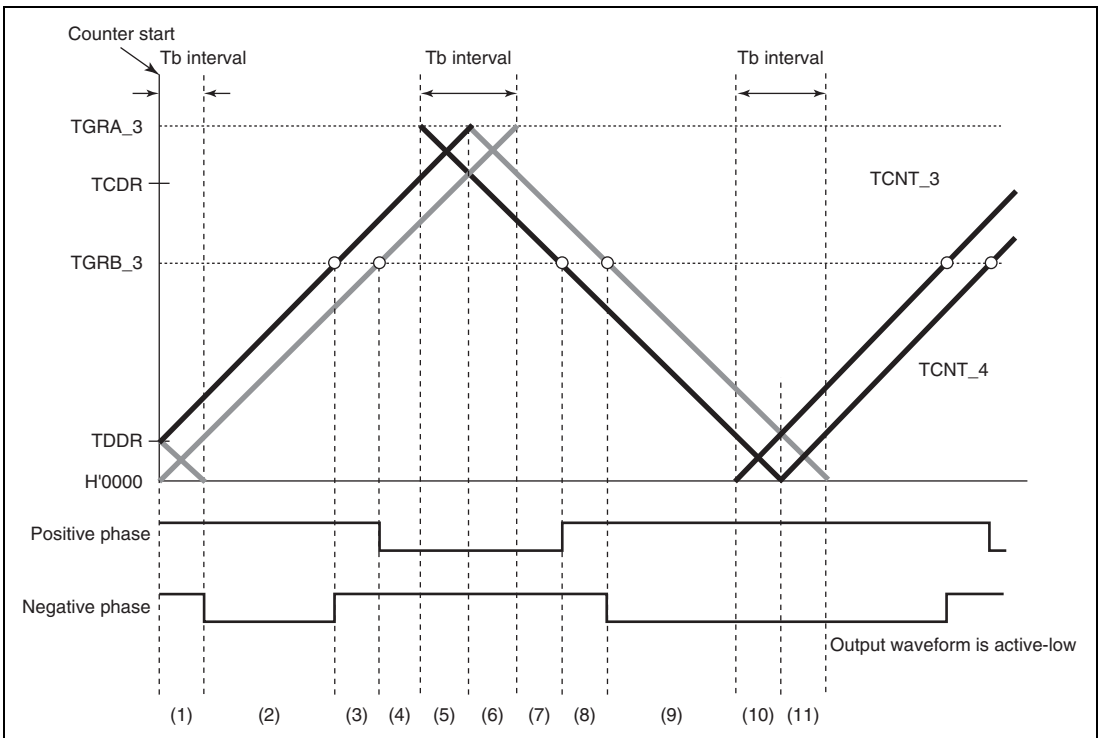
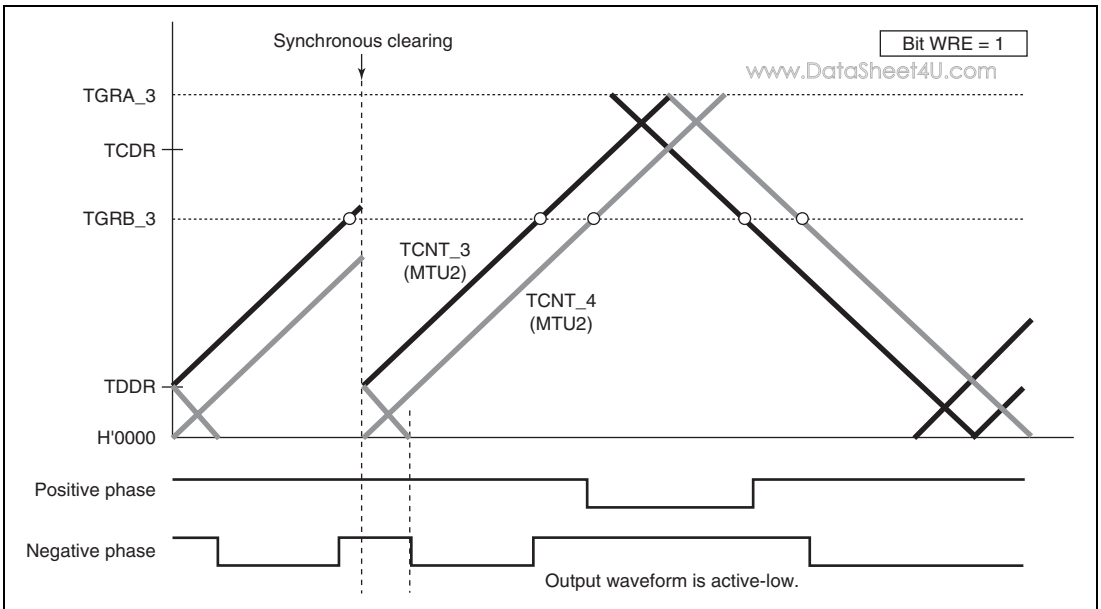
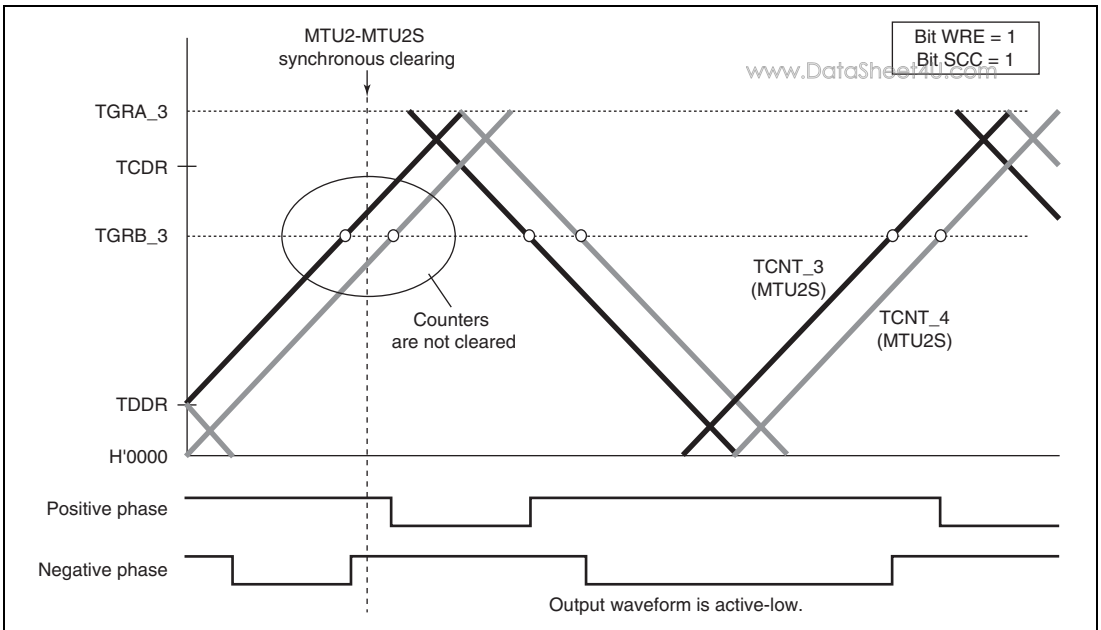

Figure 11.56 Timing for Synchronous Counter Clearing
Figure 11.58 Example of Synchronous Clearing in Dead Time during Up-Counting
Figure 11.64 Example of Synchronous Clearing in Dead Time during Up-Counting (Timing (3) in Figure 11.56; Bit WRE is 1 and Bit SCC is 1 in TWCR of MTU2S)
Initial output suppression is applicable only when synchronous clearing occurs in the T_b interval at the trough as indicated by (10) or (11) in figure 11.56. When synchronous clearing occurs outside that interval, the initial value specified by the OLS bits in TOCR is output. Even in the T_b interval at the trough, if synchronous clearing occurs in the initial value output period (indicated by (1) in figure 11.56) immediately after the counters start operation, initial value output is not suppressed.
Figures 11.58 to 11.61 show examples of output waveform control in which the MTU2 operates in complementary PWM mode and synchronous counter clearing is generated while the WRE bit in TWCR is set to 1. In the examples shown in figures 11.58 to 11.61, synchronous counter clearing occurs at timing (3), (6), (8), and (11) shown in figure 11.56, respectively.
(Timing (3) in Figure 11.56; Bit WRE of TWCR in MTU2 is 1)
(Timing (6) in Figure 11.56; Bit WRE of TWCR in MTU2 is 1)
(Timing (8) in Figure 11.56; Bit WRE of TWCR is 1)
(Timing (11) in Figure 11.56; Bit WRE of TWCR is 1)**
- Figures 11.64 to 11.67 show examples of operation in which the MTU2S operates in complementary PWM mode and MTU2–MTU2S synchronous counter clearing is suppressed by setting the SCC bit in TWCR in the MTU2S to 1. In the examples shown in figures 11.64 to 11.67, synchronous counter clearing occurs at timing (3), (6), (8), and (11) shown in figure 11.56, respectively.
(Timing (11) in Figure 11.56; Bit WRE is 1 and Bit SCC is 1 in TWCR of MTU2S)